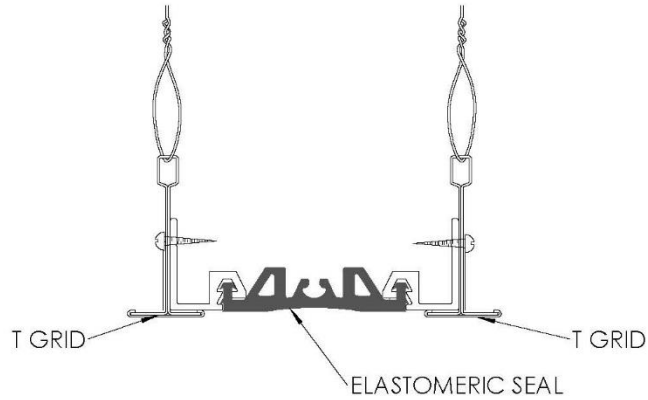

FIGURE 2
2. Position the elastomeric seal into position and push the seal bulbs into the extrusion channels as shown. Make sure you hold the “T” grid securely and seat the bulbs all the way into the channel (stagger seams, as necessary). **See Figure 2**